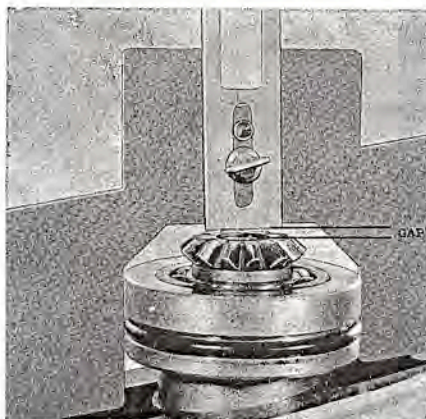
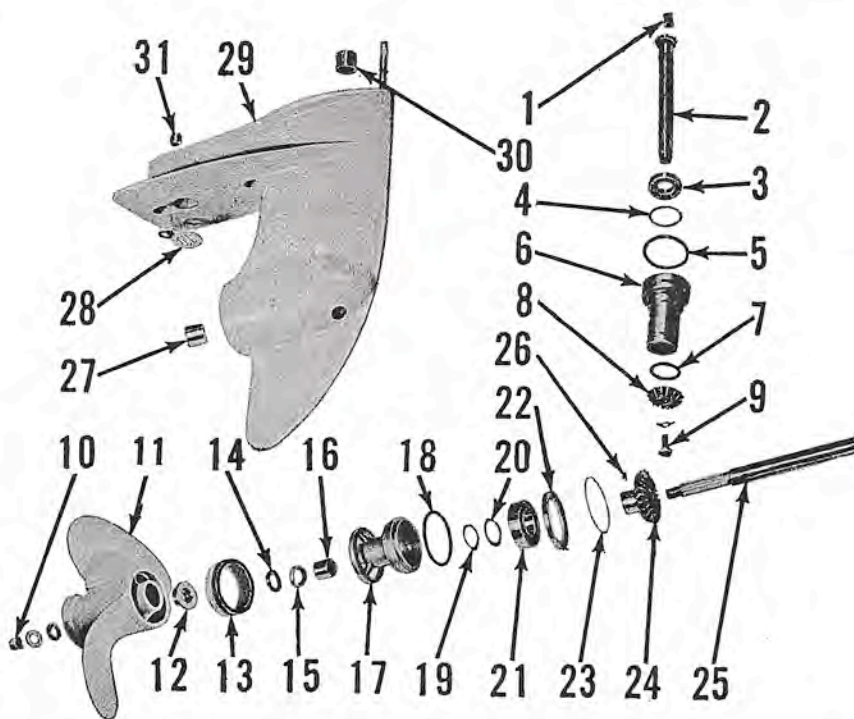

Fig. M65—Using the recommended tools to adjust transmission end play. Refer to text for details.
Fig. M66—Exploded view of lower unit gearcase and associated parts.
The transmission must be installed with 0.006-0.010 end play. Thickness of shim pack depends on the assembled height of the gearcase drive pinion (2—Fig. M66). If service on the gearcase or components is required, complete the necessary work before measuring the transmission end play. Transmission end play is adjusted by adding or removing shims in shim pack (42—Fig. M64) which fits between bearing (41) and the shoulder of upper drive shaft (8). To determine the required shim pack thickness, completely assemble the transmission, omitting the clutch springs (11 and 16). Install the assembly in driveshaft housing; then measure and record the distance be-
tween lower face of thrust washer (26) and the mounting flange of driveshaft housing. Measure and record the height of thrust washer face of lower drive shaft pinion (2—Fig. M66) above the mounting flange of gearcase housing (29). Subtract the second measurement from the first to obtain the existing clearance. Remove the transmission assembly and upper drive shaft (8—Fig. M64) and add or remove shims (42) as required to establish the recommended end play. Shims are available in thicknesses of 0.002, 0.003, 0.010, 0.020, 0.030 and 0.040. The manufacturer has designed a transmission gage (91-28987A1) which can be used to determine the shim pack thickness. See Fig. M65. When using the gage, omit one 0.010 shim (42—Fig. M64) from the previously installed shim pack, then measure the gap between lower drive pinion and the slide as shown. The measured gap indicates the thickness of shims to be added, as end play is provided for by the length of the slide on the gage.
GEARCASE HOUSING. To overhaul the lower unit gearcase, unbolt and remove the unit from driveshaft housing and clamp the assembly in a vise, using formed blocks of wood to protect the gearcase housing. Remove the propeller by removing nut (10—Fig. M66). Before disassembly, check the backlash of the gears by pushing in on propeller shaft (25) and pulling out on the lower driveshaft (2); then rotating the driveshaft slightly to determine backlash. The backlash should be 0.003-0.005.